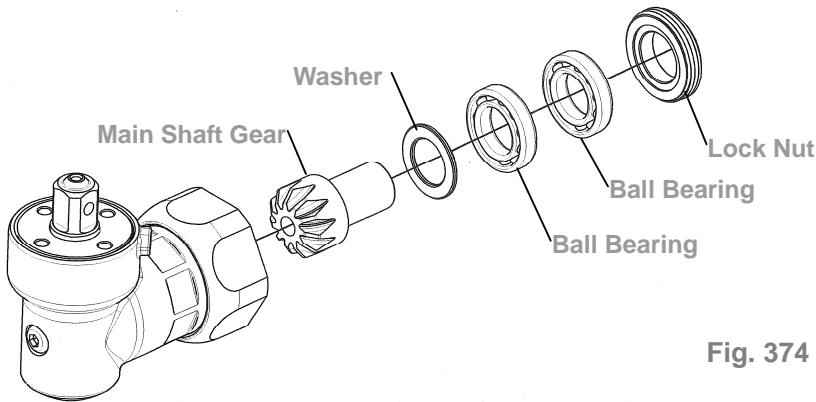

Fig. 374
- ②** Assemble the parts in Fig. 374 one by one orderly into the angle housing. Then, fix the angle housing unit. Use the torque wrench and the appliance clockwise to tighten the lock nut of the main shaft gear. See Table 52 in reference to the proper appliance selecting.